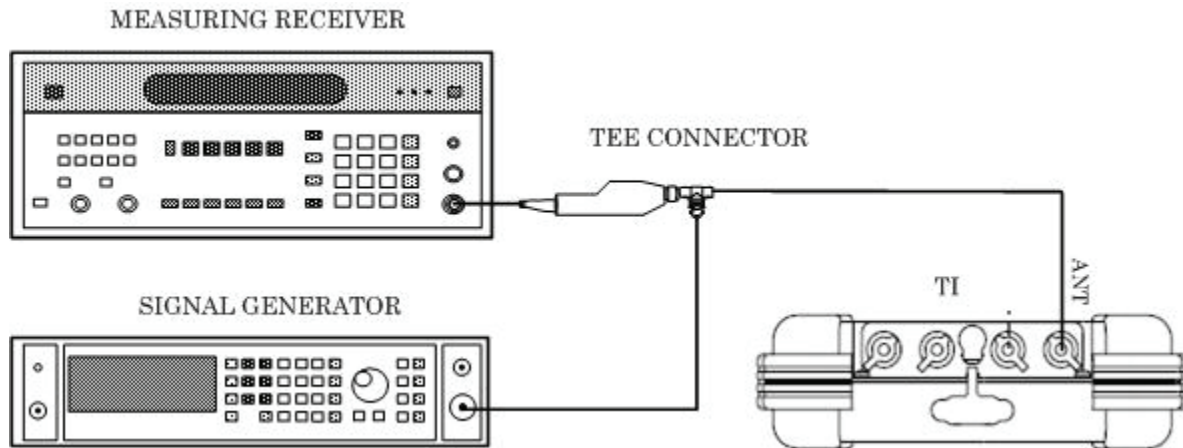

Figure 2. AM/FM meter setup.
- (1) Repeat paragraph 7 g to preset TI.
- (2) Press **MODE** until **COMM AM** mode screen is displayed.
- (3) Connect equipment as shown in figure 2.
- (4) Setup measuring receiver for a 400 MHz measurement.
- (5) Set signal generator output to 0 dBm adjust for a 400 MHz indication on measuring receiver.
- (6) Setup measuring receiver for AM measurement with 300 Hz HP and 3 kHz LP filters on.
- (7) Press TI **FREQ** and set **FREQ** to **400.000 MHz**.
- (8) Set signal generator to AM with a 1 kHz modulation frequency.
- (9) Adjust signal generator AM modulation level until a measuring receiver indicates first value in table 28. TI **TX MOD** should indicate within the limits in table 30.
- (10) Repeat step (9) above for the remaining settings in table 30.
- (1) Press the following TI keys, as needed, in (a) through (e) below.
- (2) Connect equipment as shown in figure 2.
- (3) Set signal generator to -20.0 dBm at 165 MHz.
- (4) Setup measuring receiver for a 165 MHz measurement.
- (5) Set signal generator FM on and modulation frequency to 400 Hz.
- (6) Setup measuring receiver for FM measurement with 50 Hz HP and 3 kHz LP filters on.
(7) Vary signal generator FM deviation frequency until measuring receiver indicates the first setting in table 31. If **TX DEV** does not indicate within the limits in table 31, perform **b** below.
(8) Repeat step (7) above for the remaining FM settings in table 31.